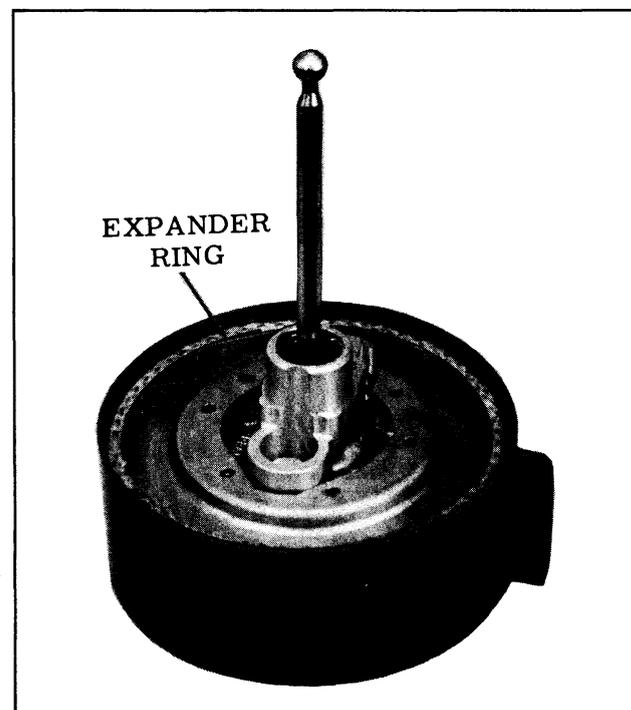

Fig. 7-53 Installing Expander Ring
12. Coil expander ring inside wick with barbs pointing up and into wick. Engage notch at loop end of ring with hook at opposite end. (See Fig. 7-53)